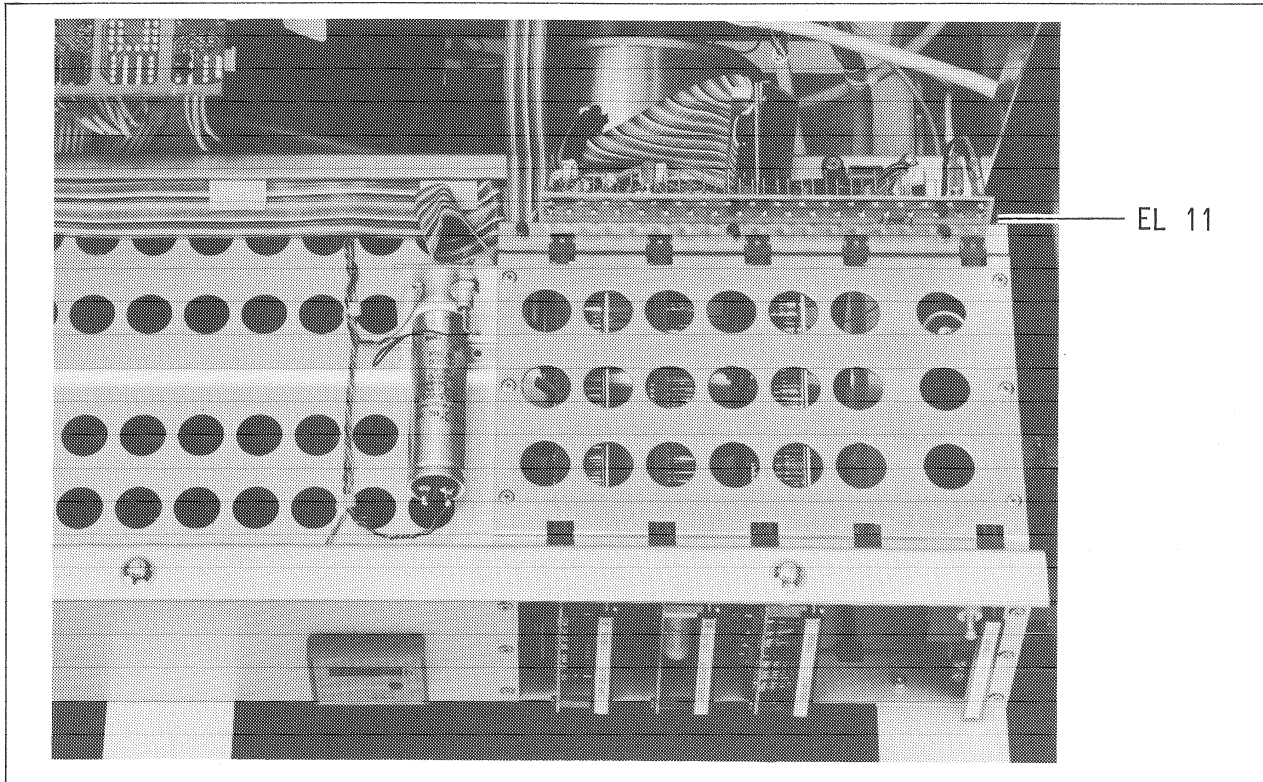

Figure 5
- Connect a ballast resistance of 0.86 Ohm/30 W (current 6 A) to the busbar GR35, EL11. See figure 5.